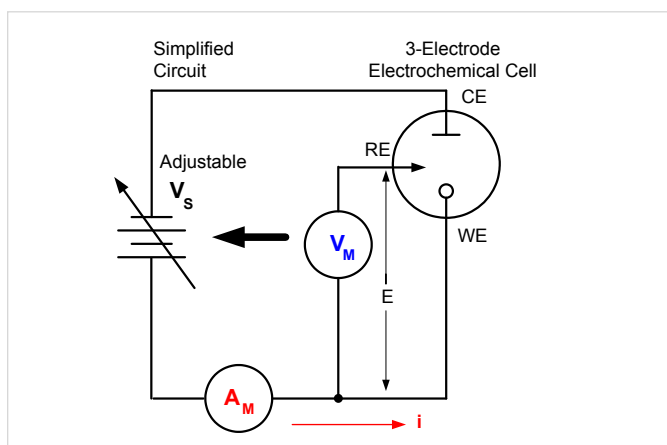

Figure 1. Simplified measurement circuit for performing cyclic voltammetry.
Cyclic voltammetry (CV), a type of potential sweep method, is the most commonly used electrochemical measurement technique, which typically uses a 3-electrode cell. **Figure 1** illustrates a typical electrochemical measurement circuit made up of an electrochemical cell, an adjustable voltage source ( $V_s$ ), an ammeter ( $A_M$ ), and a voltmeter ( $V_M$ ). The three electrodes of the electrochemical cell are the working electrode (WE), the reference electrode (RE), and the counter electrode (CE). The voltage source ( $V_s$ ) for the potential scan is applied between the WE and CE. The potential ( $E$ ) between the RE and WE is measured with the voltmeter, and the overall voltage ( $V_s$ ) is adjusted to maintain the desired potential at the WE with respect to the RE. The resulting current ( $i$ ) flowing to or from the WE is measured with the ammeter ( $A_M$ ).